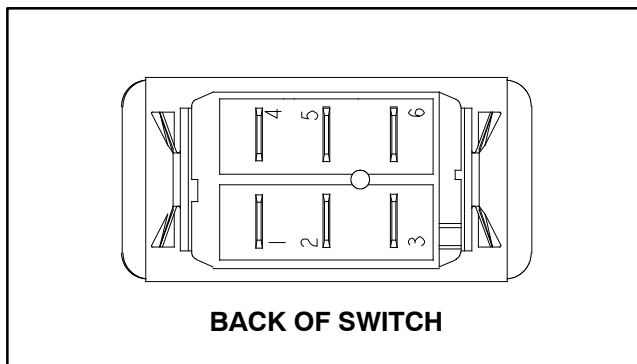

Figure 53
5. The switch terminals are marked as shown in Figure 53. The circuit logic of the turn signal switch is shown in the chart below. With the use of a multimeter (ohms setting), the switch functions may be tested to determine whether continuity exists between the various terminals for each position. Verify continuity between switch terminals. Replace turn signal switch if testing identifies a faulty switch.